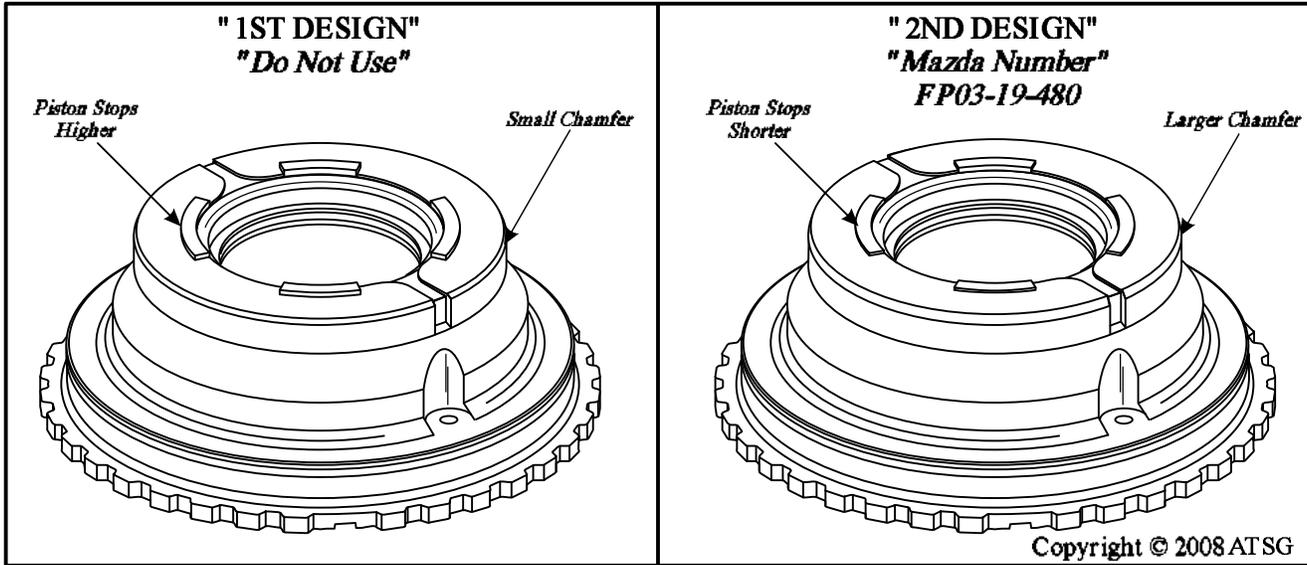

Figure 134
4. Check to ensure that you have a 2nd design reverse piston, as shown in Figure 134.